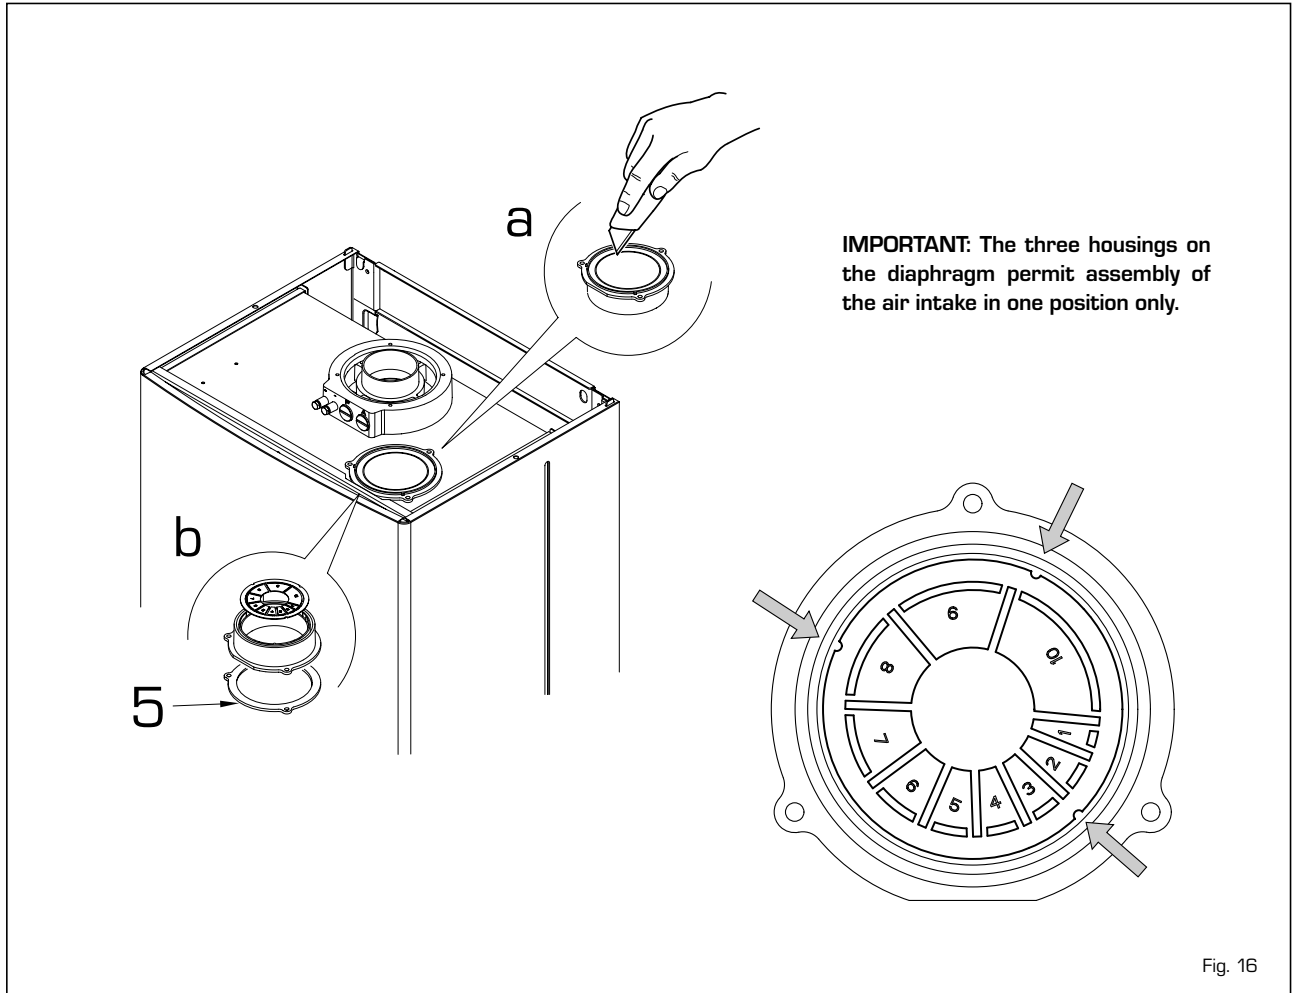

Fig. 16
**3.6.2 Use of air intake (fig. 16)**